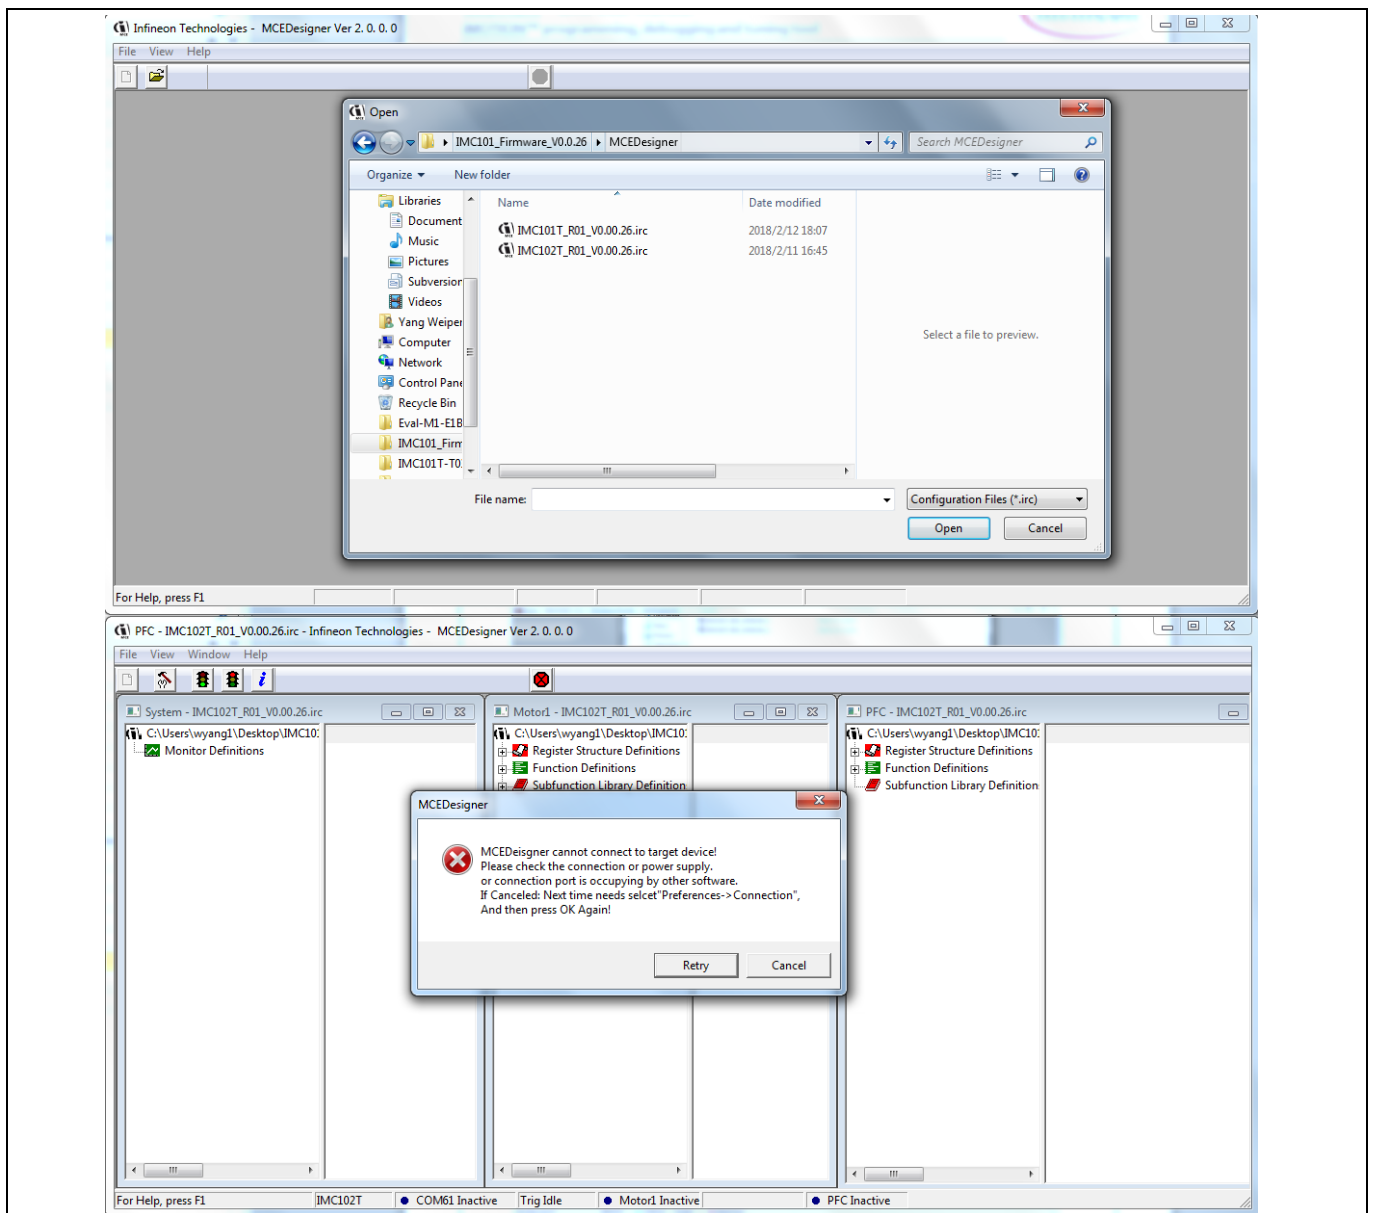

Figure 11 Configuration file selection
2. It is possible that the default COM port does not match with the configured COM port number on the PC, and the message “MCEDesigner cannot connect to target device” will appear (as in Figure 11). In that case, press Cancel, Highlight or click “System – XXX.irc” sub-window and select “Preferences → Connection”. Then select proper COM port from drop down list and press “OK” button.